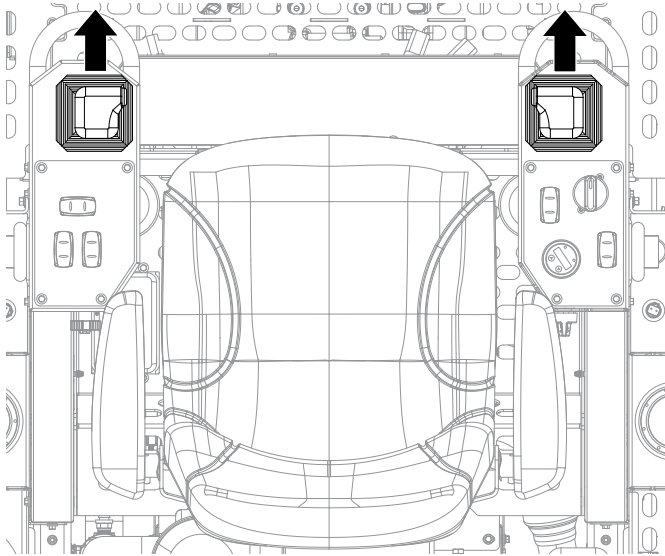

Figure 32. Joysticks (Forward)
1. Push both the left and right joysticks **forward** (Figure 32).